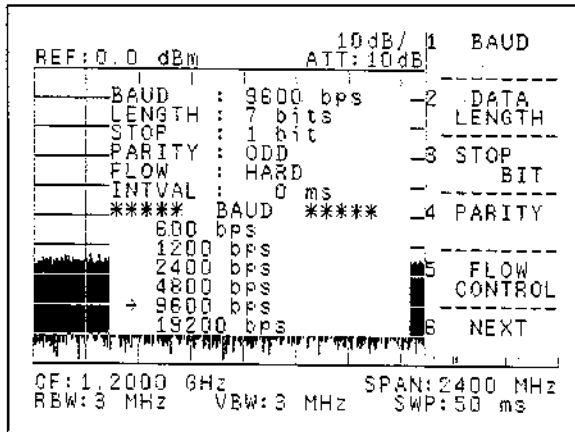

Figure 5-32 Window screen for communication port setting
① Window screen for setting communication ports. Press **SHIFT** **CONFIG** **6** **NEXT** and the window screen shown in Figure 5-32 will appear. The upper portion of the window screen shows the current settings, and the lower portion is used to change each parameter. Use the marker (→) to change them.
② Transmission speed setting (baud rate) Press **1** **BAUD** on the display softmenu shown in Figure 5-32. Each time this softkey is pressed, the "→" will move, enabling the transmission speed to be select.